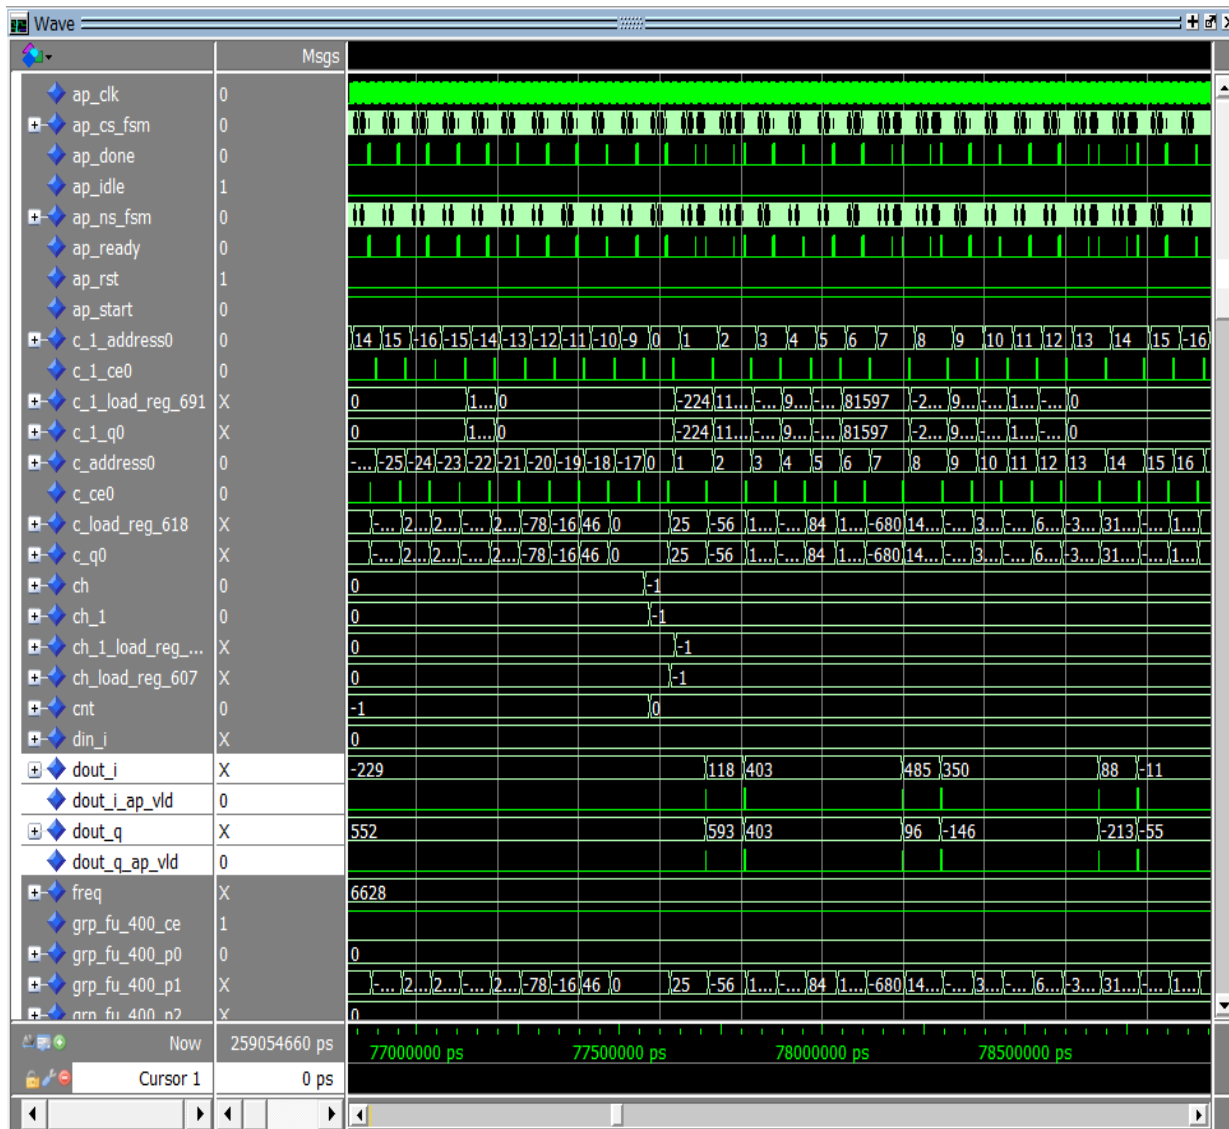

Figure 8-18: Viewing the Trace File in ModelSim
6. Add the signals to the trace window and adjust to see a view similar to Figure 8-18.